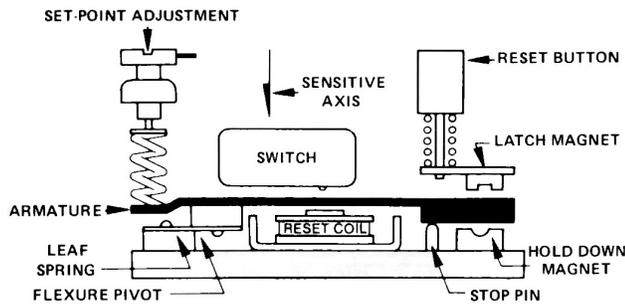

Figure 4-1, Operating Principle for the Vibraswitch, Model 366.
The Vibraswitch, Model 366 (Refer to Figure 4-1), is sensitive to vibration in a direction (the sensitive axis)
With the equipment on which the Vibraswitch is mounted not operating, back-off the set point adjusting screw counterclockwise (CCW) two turns and press the reset button. Then, turn the set point adjusting screw slowly clockwise until actuation occurs (the armature assembly is against the magnet, Figure 4-1). **This is the zero vibration point**, or actuation point, with the machine not operating. A mark should be made with a lead pencil or other convenient means to permanently record this "zero vibration point." Subsequent measurements are made relative to this point.
Vibraswitches do not normally require repair; however, listed below are some of the possible malfunctions that may occur and their recommended solutions (Ref. Figure 4-1).
a. Functional Test – (Ref. Figure 4-1)
2. **Broken leaf spring** (Ref. Figure 4-1) – Return Vibraswitch to factory for repair.
Warning – When replacing parts in the field, do not remove or readjust the magnets, stop pin, leaf springs, armature, or any parts associated with the armature. (See Figure 4-1).